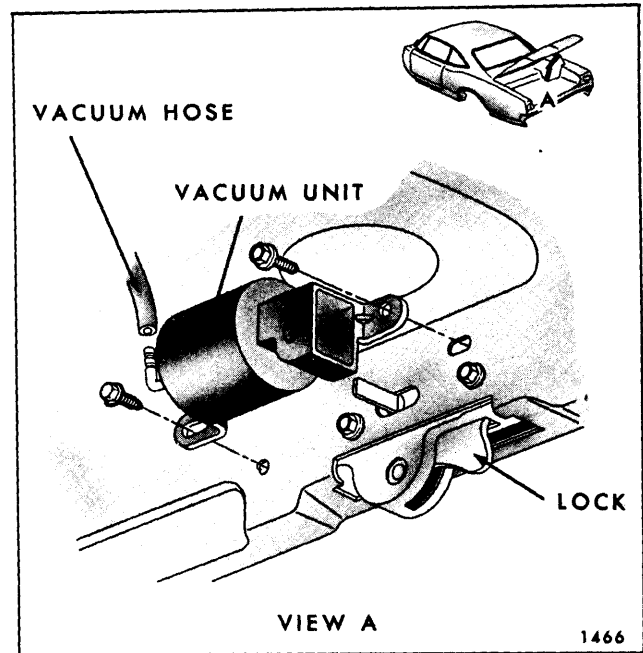

Fig. 8-26—Rear Compartment Lid Vacuum Release Unit - Exposed Type
2. Disconnect vacuum hose from vacuum release unit. Remove attaching bolts shown in illustration and remove vacuum unit (Figs. 8-26 and 8-27 for typical illustrations).